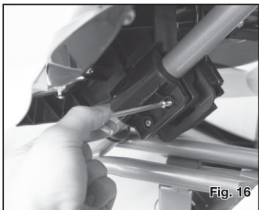

Fig. 16
19. Insert the Screw^⑨ to the mount holes and tighten it well with using the Screw driver^⑩ Provided (see Fig. 16).